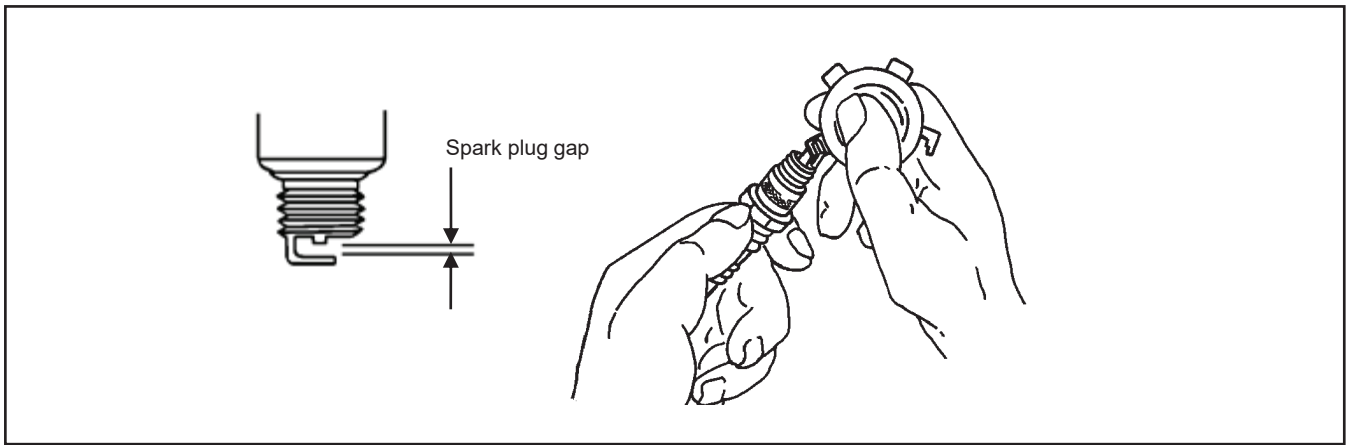

Figure 28 Spark Plug Gap
7. Use a spark plug gap tool to measure the gap on each spark plug. Adjust the gap to specification. See Figure 28.